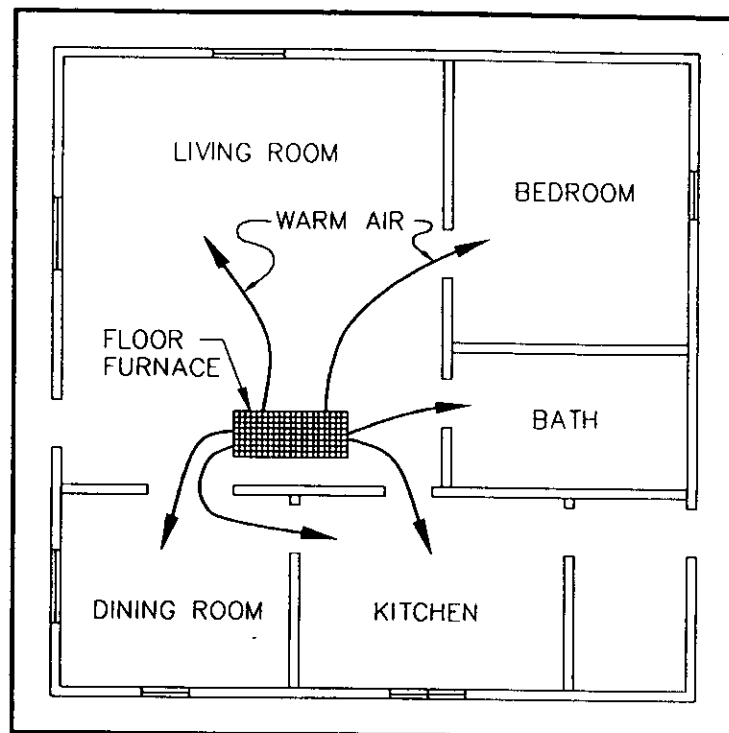

FIGURE 2
3. In small homes, one unit centrally located may be sufficient to meet the heating requirements, but it is impractical to attempt to use this furnace where heat must travel through more than one doorway before reaching an area where heat is desired. A typical installation of a single unit in a small home is shown by Figure 2.